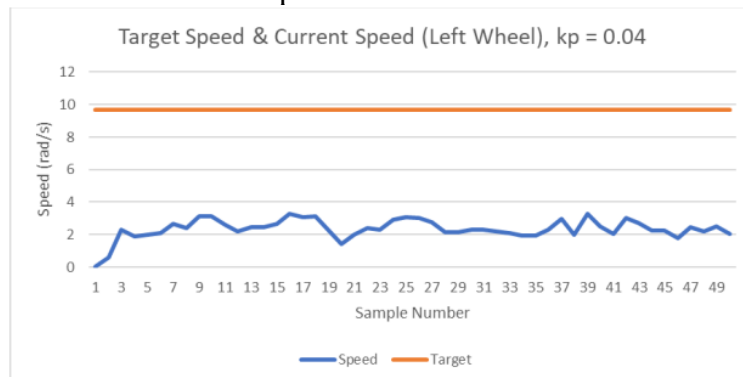

Figure 4: Example error response for P control
5. Once you have exported the wheel speed data, create a plot in Excel for the target speed and measured speed for each sample. Follow the example in figure 4 and make sure to include labels, titles, units, and a legend. Set a fixed axis range for every graph since we need to compare different control responses.